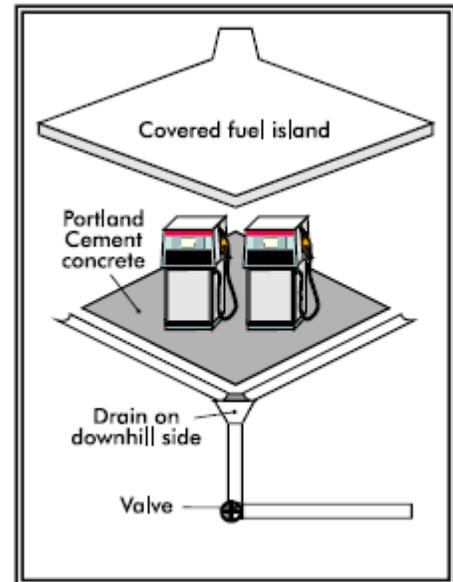

Figure B2-1 Fueling Area Design Features
- ▶ If an existing fueling pad drains to storm or sanitary sewer, consider installing a valve which can be closed to prevent discharge in the event of a fuel spill (as shown in Figure B2-1). If the fueling pad drainage connects to sanitary sewer, a pretreatment permit may be required.